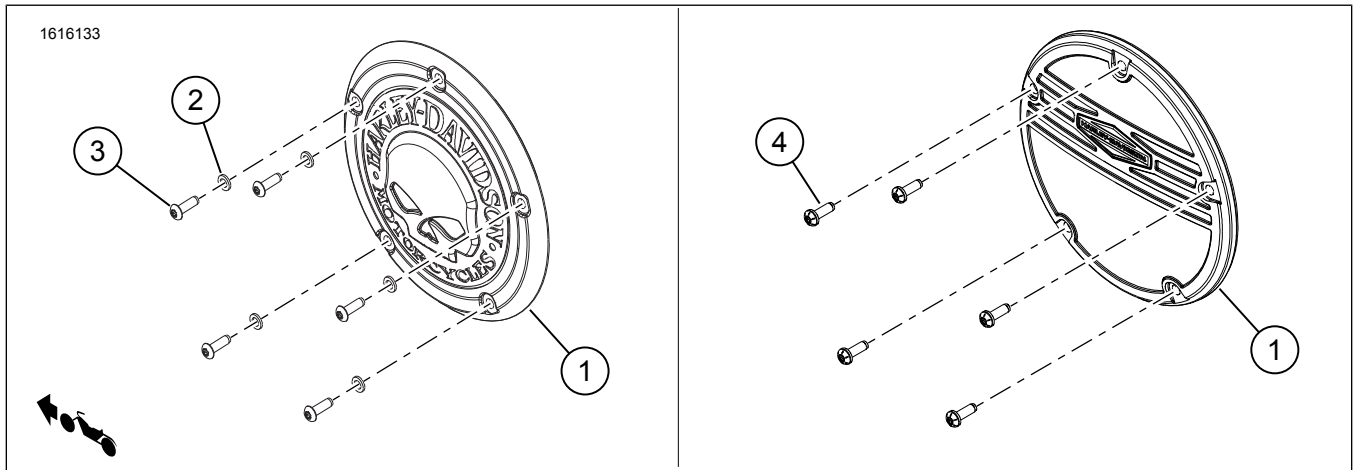
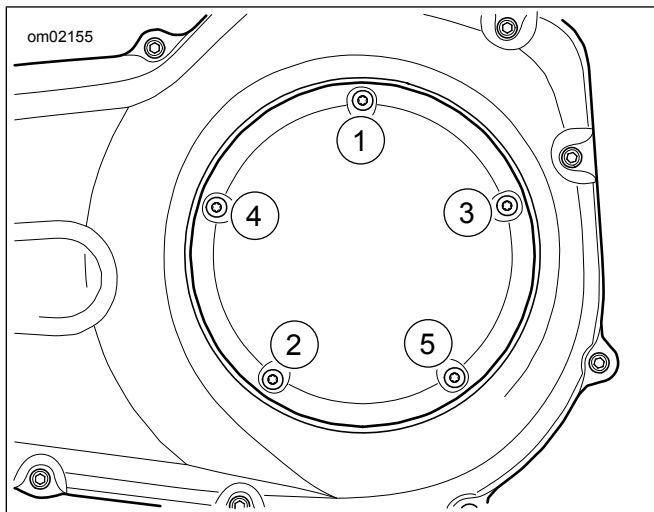

Figure 1. Kit Contents: Derby Cover Components
Figure 2. Clutch Cover Tightening Sequence
1. Figure 1 Install **new** cover (1).
2. Install washers (2) and screws (3).
3. Figure 2 Tighten screws (3) in a star pattern.
1. Figure 1 Apply threadlocker to threads of screws (4).
2. Install **new** cover (1).
3. Install screws (4).
4. Figure 2 Tighten screws (4) in a star pattern.